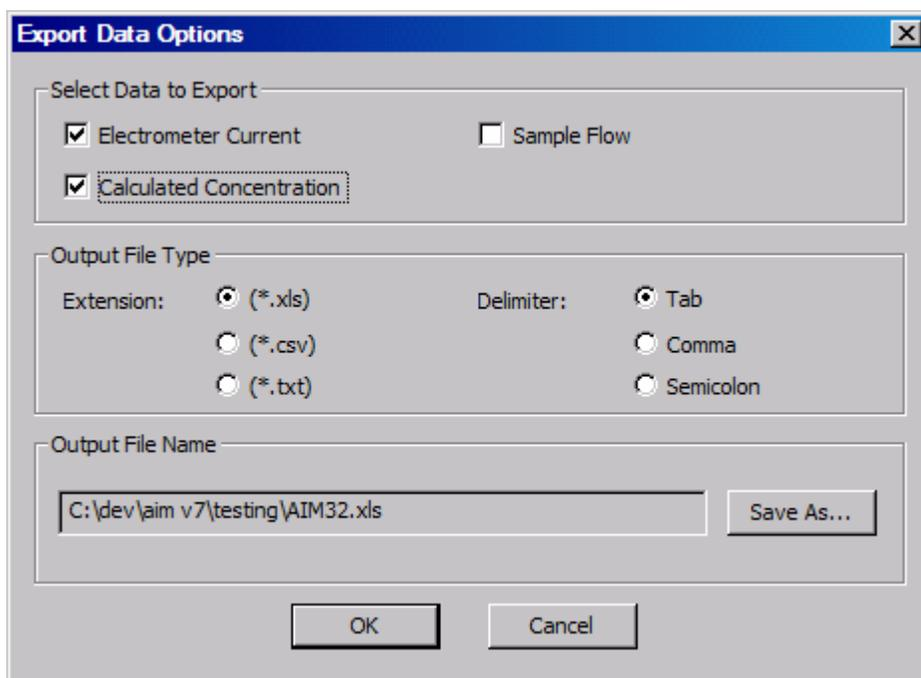

Figure 5-6
2. Select **File | Export**. An Export Parameters box appears as shown in Figure 5-6.